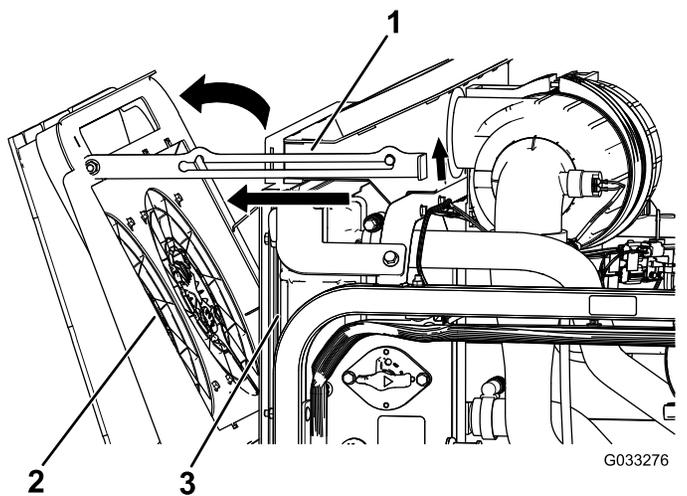

Figure 120
2. Pivot the engine-cooling fans rearward of the radiator and lock the prop rod into the notch (Figure 120).